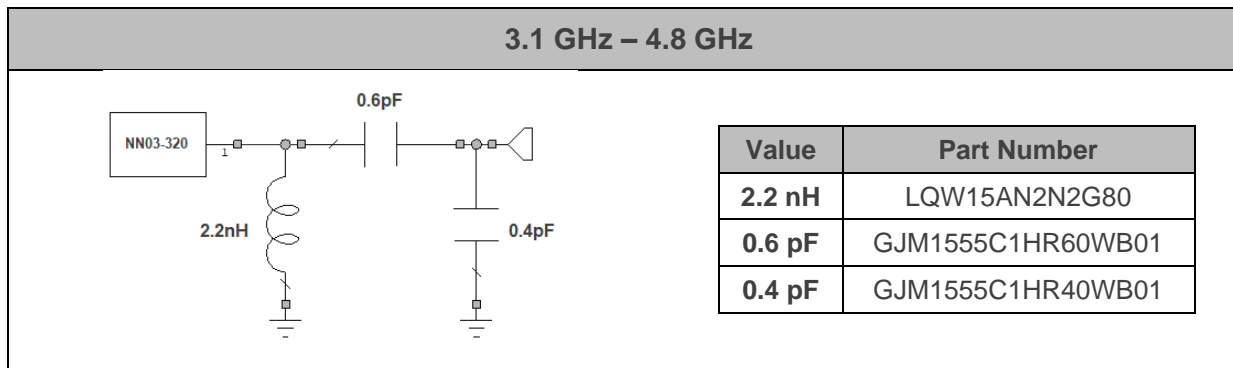
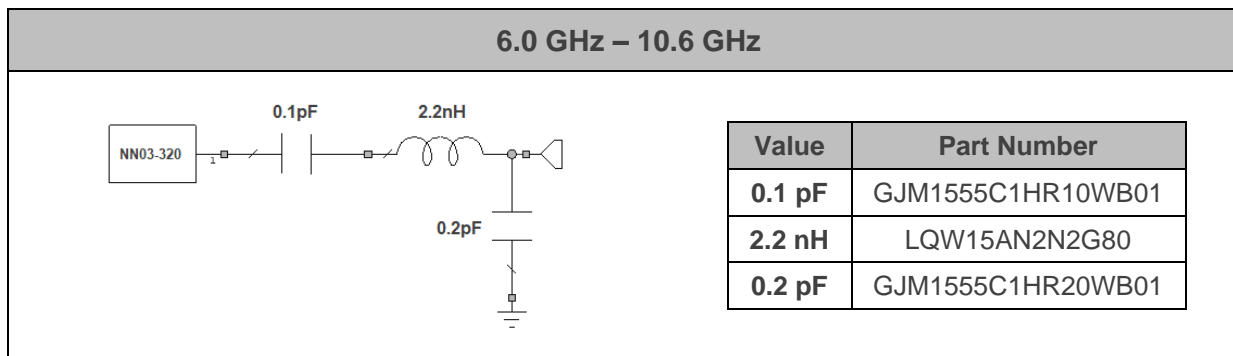

Figure 12 – Matching network implemented in the Evaluation Board (**Figure 11**) for covering the low frequency region from 3.1GHz to 4.8GHz.
Figure 13 – Matching network implemented in the Evaluation Board (**Figure 11**) for covering the high frequency region from 6.0GHz to 10.6GHz.
The antenna performance is always conditioned by its operating environment. Different devices with different printed circuit board sizes, components nearby the antenna, LCD's, batteries, covers, connectors, etc. may need a different matching network. Accordingly, it is highly recommended placing pads compatible with 0402 and 0603 SMD components for a matching network as close as possible to the feeding point of the antenna element in the ground plane area, not in the clearance area. This provides a degree of freedom to tune the DUO mXTEND™ antenna booster once the design is finished and taking into account all elements of the system (batteries, displays, covers, etc.). To ensure optimal results, the use of high-quality factor (Q) and tight tolerance components is highly recommended (e.g. Murata components (Figure 12)).
Figure 14 – VSWR and total efficiency for the UWB LFR (3.1GHz – 4.8GHz) and for the UWB HFR (6.0GHz – 10.6GHz) from the Evaluation Board (**Figure 11** with the matching networks gathered in **Figure 12** (LFR UWB) and **Figure 13** (HFR UWB), respectively. Simulated results obtained with CST.
Table 7 – Antenna gain and total efficiency from the Evaluation Board (Figure 11) for 3.1GHz – 4.8GHz with the matching network of Figure 12. Simulated results obtained with CST.